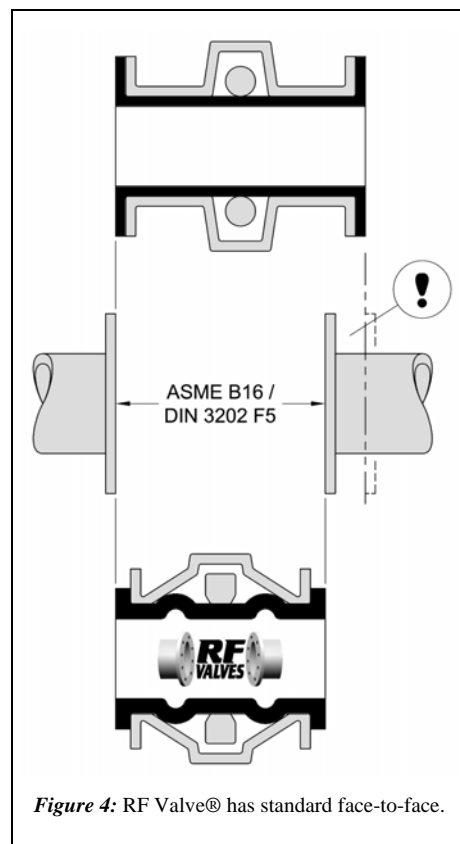

Figure 4: RF Valve® has standard face-to-face.
- To allow the face-to-face length of the RF Valve® to meet various piping standards (for example ASME B16 and DIN 3202 F5). This enables direct replacement of any valve with common, standard face-to-face dimensions in the field without having to modify piping (Fig. 4). With its patented arch design, the RF Valve® elastomer tube flexes, not stretches, during closure while conforming to a standard face-to-face dimension. Other pinch valves that have straight sleeves and longer face-to-face dimensions must stretch to close the valve increasing fatigue and wear.